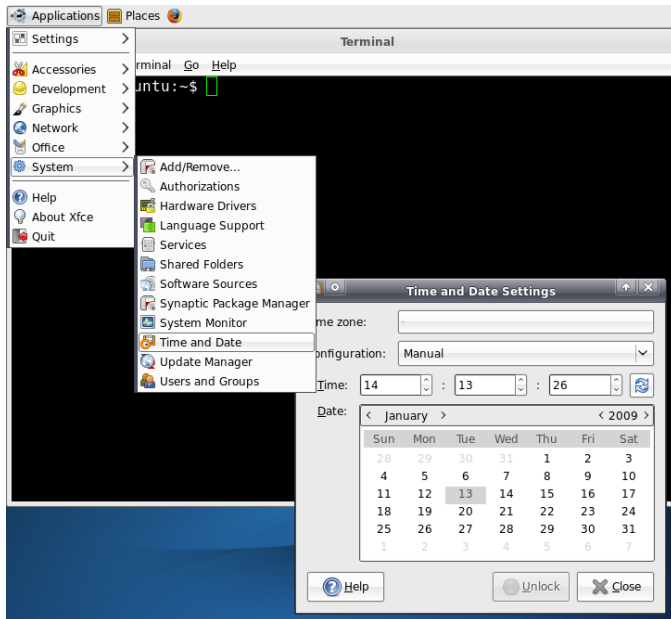

Figure 39: Adjusting the time zone
**Setting the time zone** takes place via a control panel of the system configuration which is as well directly callable from the start menu: "*Applications -> System -> Time and Date*" (see Figure 39). Since changing the time zone is an administrative activity, the dialog must first be released by using pushbutton "*Unlock*" (also see Figure 39). Therefore, the administrator password will be asked analog to the console command "*sudo*". By default, **password "vmware"** must be entered (also compare Table 10 in section 6.4). Afterwards, the capital and the corresponding time zone can be chosen via path "*Time zone*".